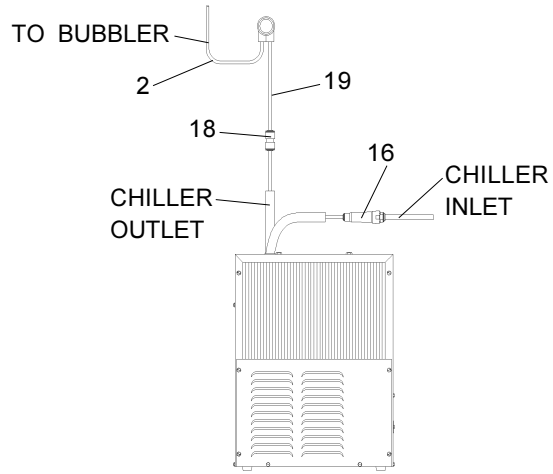

Figure 19 – HTER-Q/HTSR-Q Tube Routing
- 7. Make connection between remote chiller outlet tube and fountain(s).** Outlet port is marked on the chiller (1/4" O.D. copper tube). Install a 1/4" union/tee (provided) on the marked chiller outlet port. Insert the 1/4" poly tubing coming from the fountain(s) into the union/tee. Turn on water supply and check for leaks.(See Figs. 19 or 20)